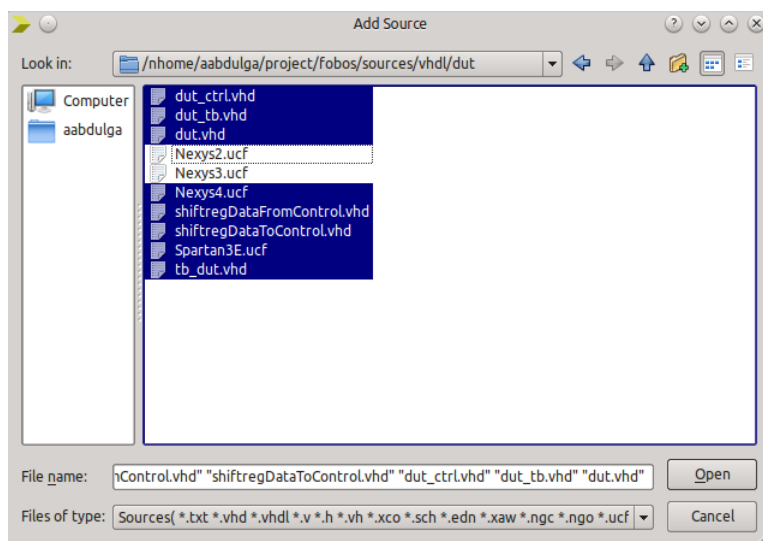

Figure 2.7: DUT Add Sources
3. Repeat the previous process to add all vhd1 files from `$fobos/sources/vhd1/DUT` and make sure to add the appropriate UCF file depending on the DUT board used (See Fig 2.7).